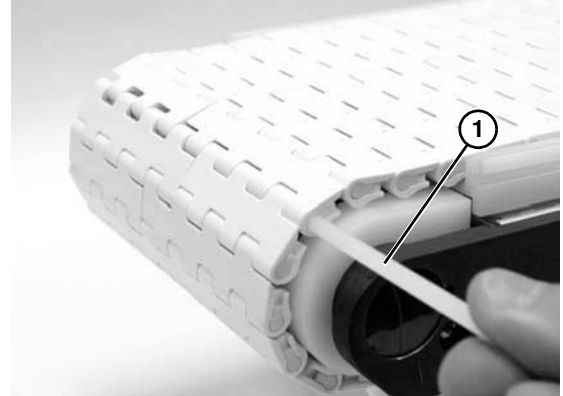

Figure 45
4. Splice the belt together by pushing the plastic rod (**Figure 45, item 1**) through the side hole.